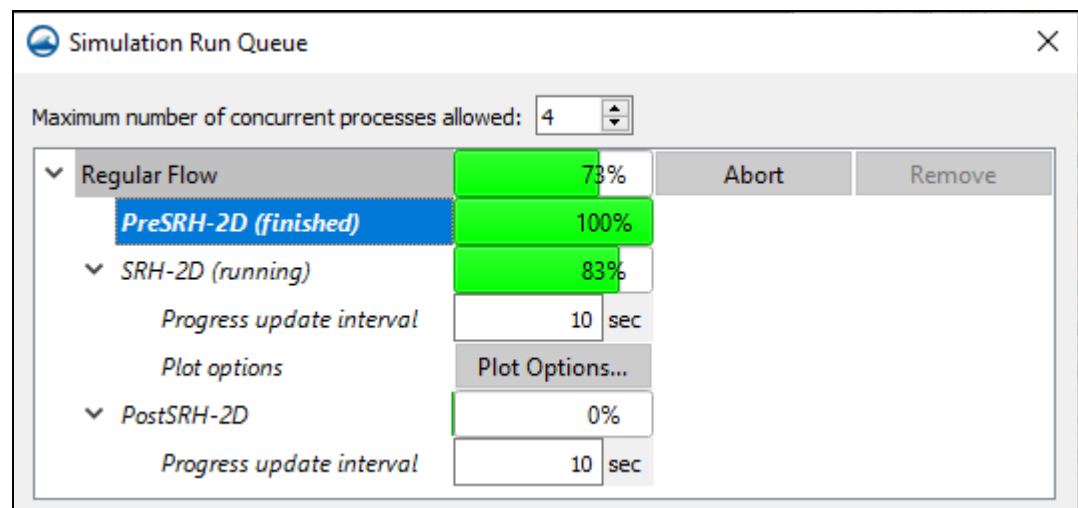

Figure 5 SRH-2D Simulation Run Queue
2. Expand the “Regular Flow” item in the top portion of the *Simulation Run Queue* dialog, then expand the “SRH-2D” item as showing in Figure 5.